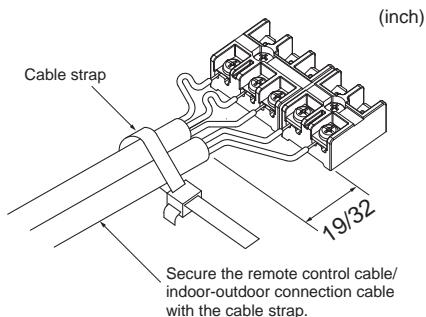

Fig. 5-3
5.1. Indoor unit (Fig. 5-1, Fig. 5-2, Fig. 5-3)